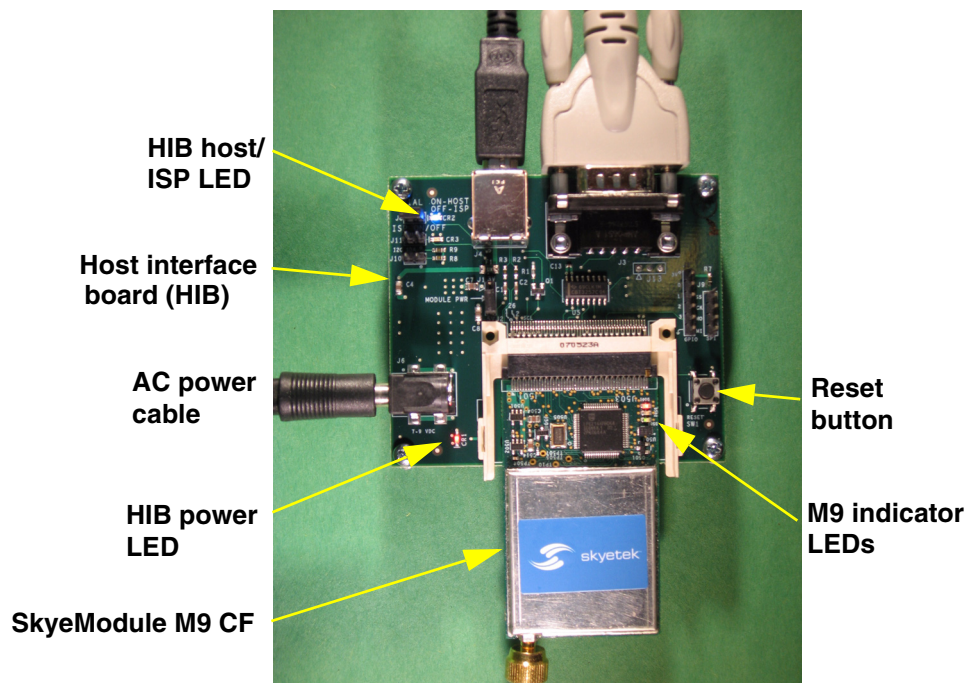

Figure A-1 HIBv3.1 LEDs and Reset, SkyeModule LEDs
- If the SkyeModule LEDs are not lit after taking the above steps, try resetting the module by clicking the Reset button located on top of the host adapter board (Figure A-1).
The SkyeModule M2 and M9 have three indicator LEDs located on the top of each reader (see Figure A-1 on page 67):
Yes. Press the reset button on the host interface board (Figure A-1) and hold it down for a few seconds. This restarts the reader. SkyeWare 4 typically detects the reader a few seconds after the reset.